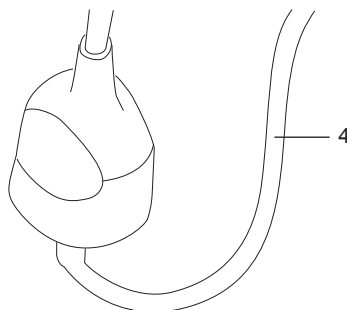

Fig. 19
6. Connect the plug (4) to the socket of the extension cord (Fig.19).